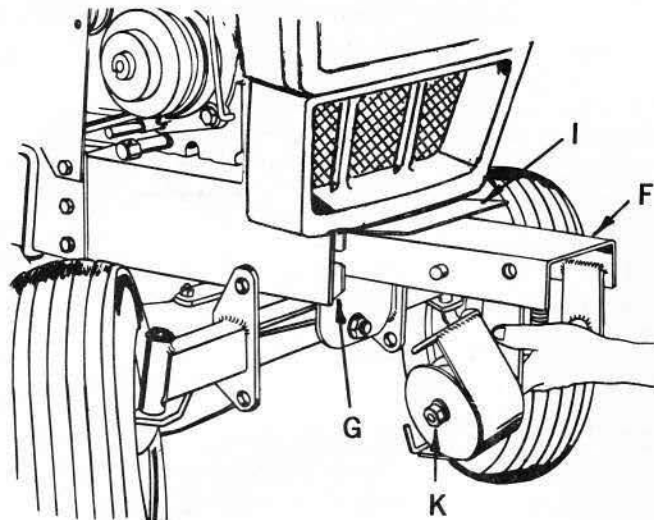

FIG. 11
16. Raise front channel cover (I), and slide idler shaft assembly (F), into front of tractor channel (G). Refer to Fig. 11.
2. Refer to Fig. 11. Remove nut and lockwasher from idler shaft assembly (F), and remove belt guide (K), and belt.